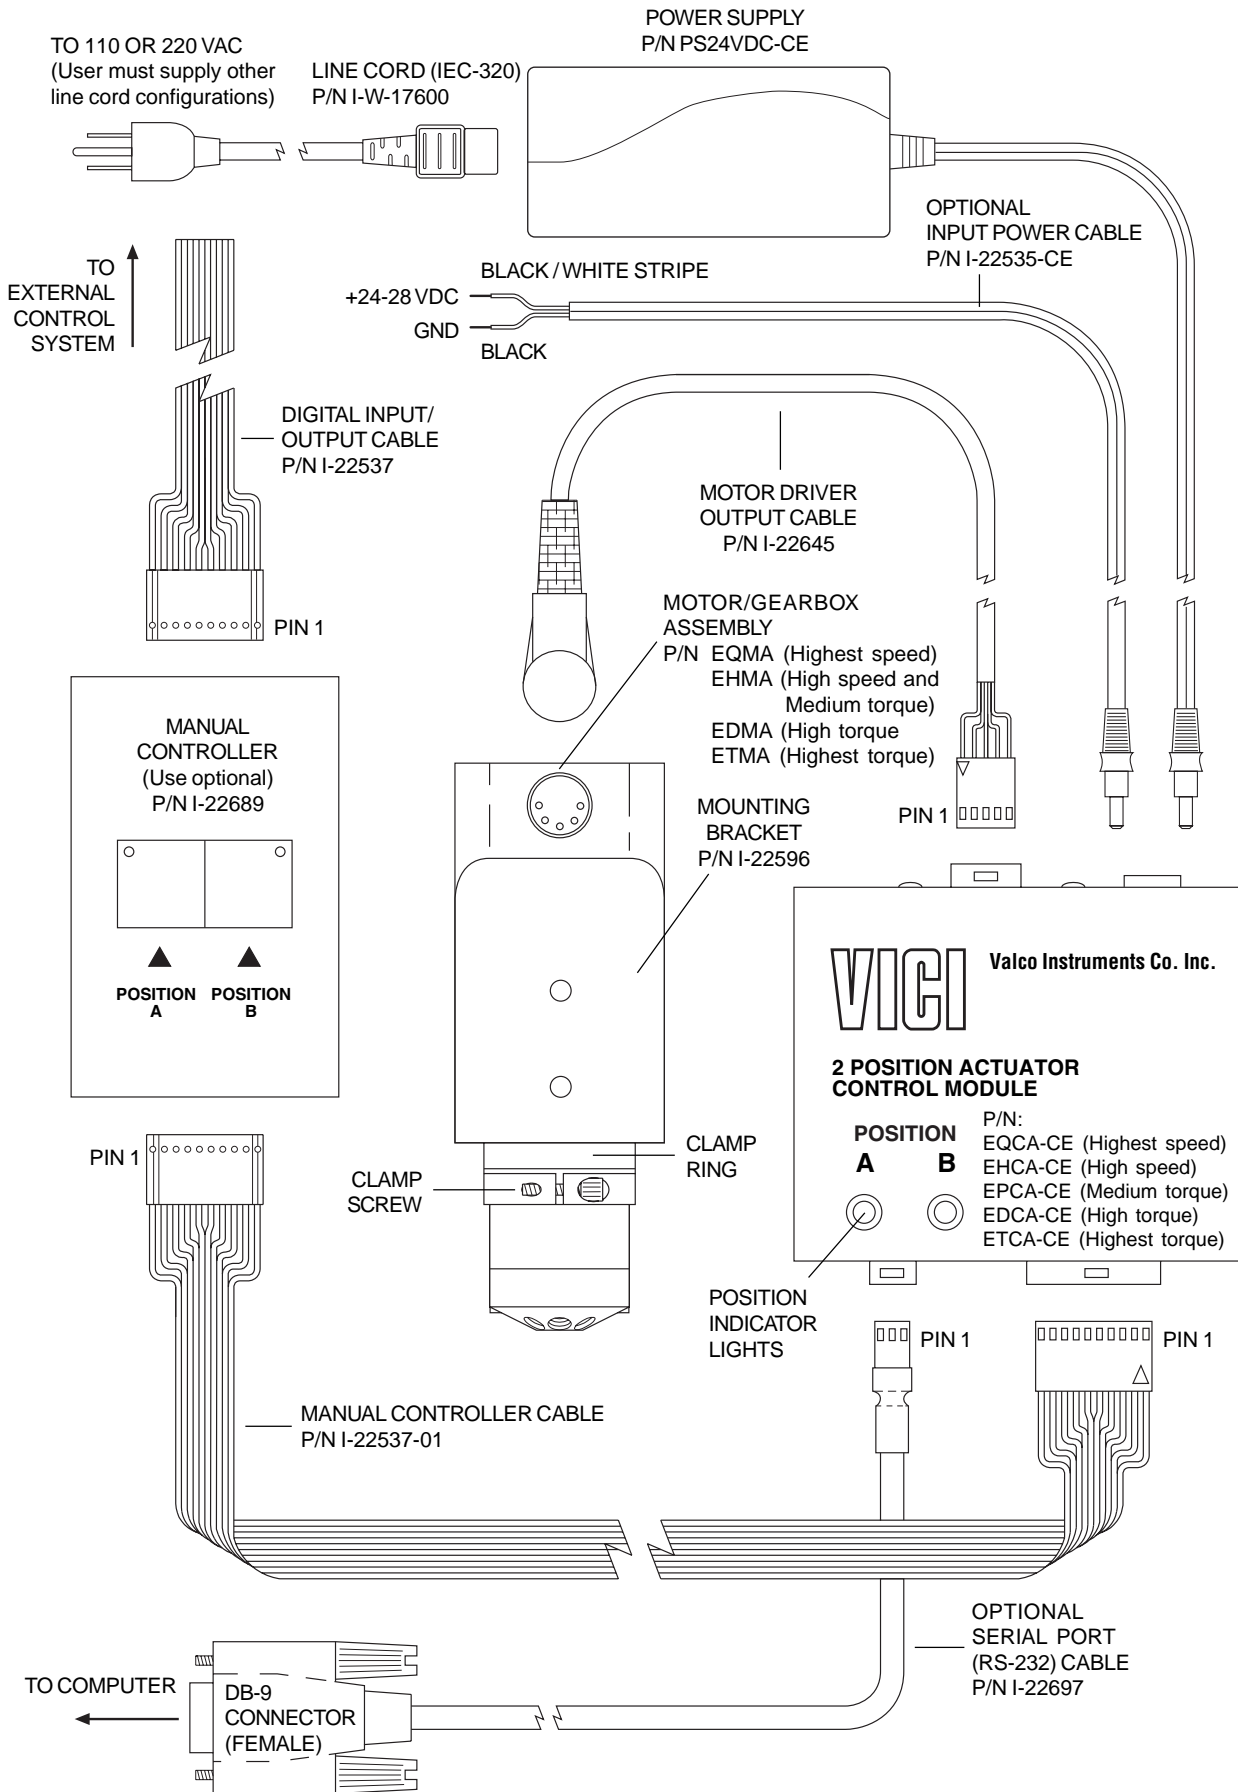

Figure 1: Actuator and controller connections
Figure 1 on the next page shows how to connect the various actuator components. There are four connectors on the control module, keyed and sized to prevent incorrect connection.
1. Connect the I-22697 cable to the actuator as indicated in **Figure 1**, and set the serial port at 9600 baud, no parity, 8 data bits, 1 stop bit, no hardware or software handshaking.
To set the ID of an actuator, connect it to an RS-232 serial port as shown in **Figure 1** on page 2. **Caution:** When installing or replacing actuators on a shared serial port, make sure that no two devices have been set to the same ID number.